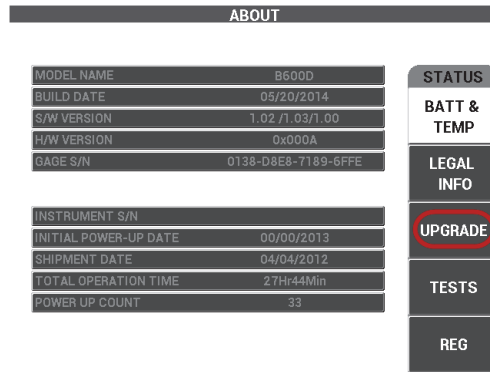

Figure 7-4 The UPGRADE menu
3. Press the C key to select the **UPGRADE** menu (see Figure 7-4 on page 184).